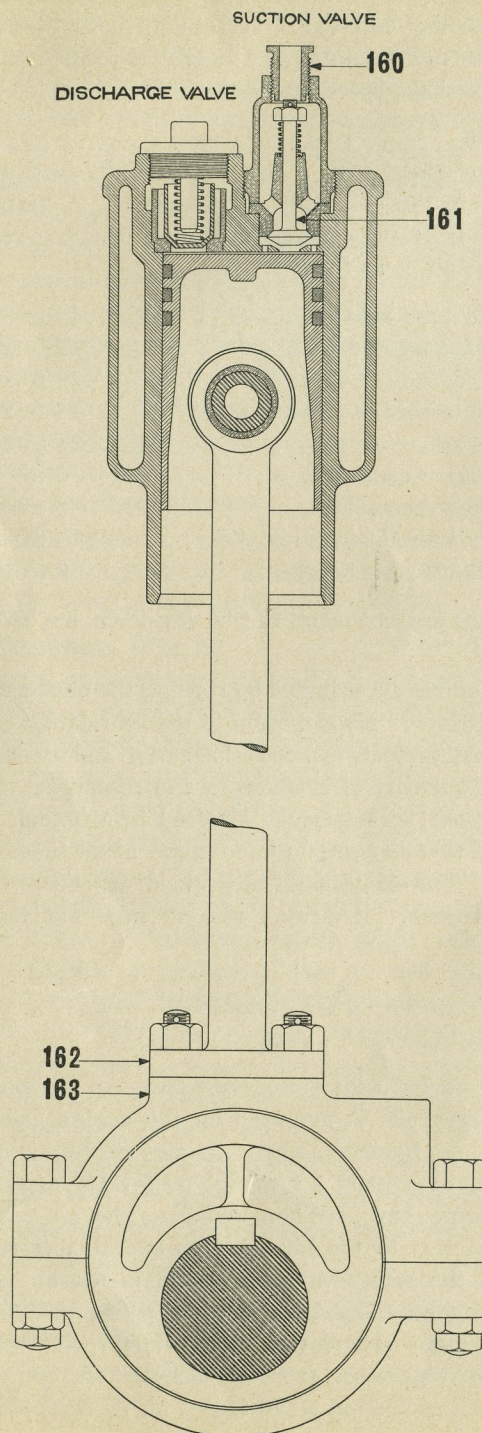

FIG. 6
All engines are started with compressed air. An air compressor (Fig. 6) to furnish the necessary air, is mounted on the engine and driven by an eccentric. The first time, however, when the air receiver is empty it must be pumped up by means of a hand air pump, preferably a good tire pump to about 100 lbs. gauge pressure. When installing the air tank an extra good valve must be placed next to the air receiver and this valve must always be closed tightly when the safety valve, mounted in the air compressor head, blows off, or if the engine is stopped; all pipe connections must be perfectly tight. The air compressor suction valve is provided with a cut out (160) (Fig. 6), which stops the compressor from working. This cut out (160), when screwed down, holds the suction valve (161), off its seat, it is however so arranged that it cannot be screwed down too far.